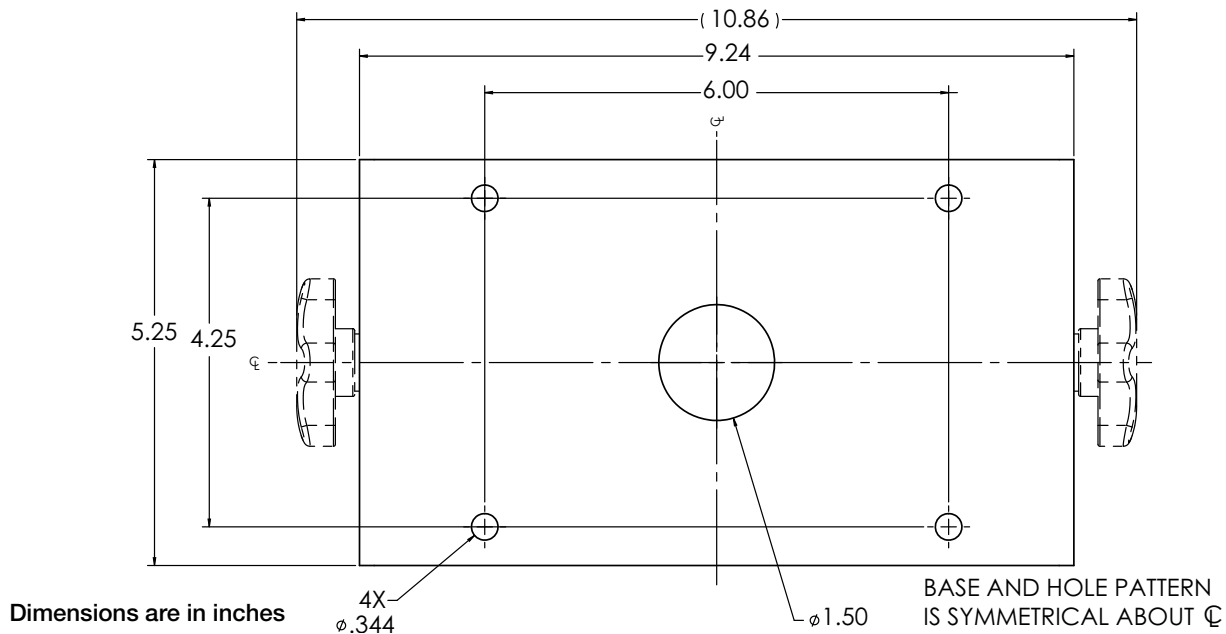

Figure 2-5. Universal Surface Mount Stand Dimensions
1. Using the tilt stand as a template, mark the screw locations. See Figure 2-5 for dimensions.
This illustration is not to scale. It is for illustration purposes only. Use the dimensions to mark the holes for the universal mount, or use the bottom of the tilt stand as a template. Do not use Figure 2-5 as a template.